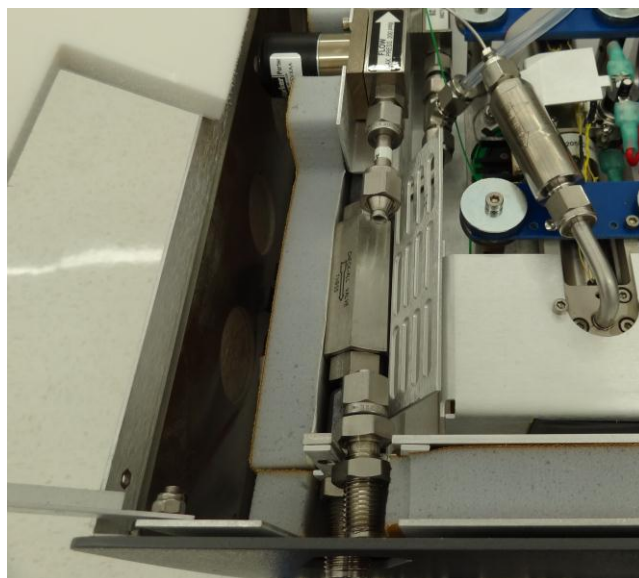

Fig 6: Remove the old filter
- Slide the filter slightly towards the back of the analyzer and lift it out (Fig 6).